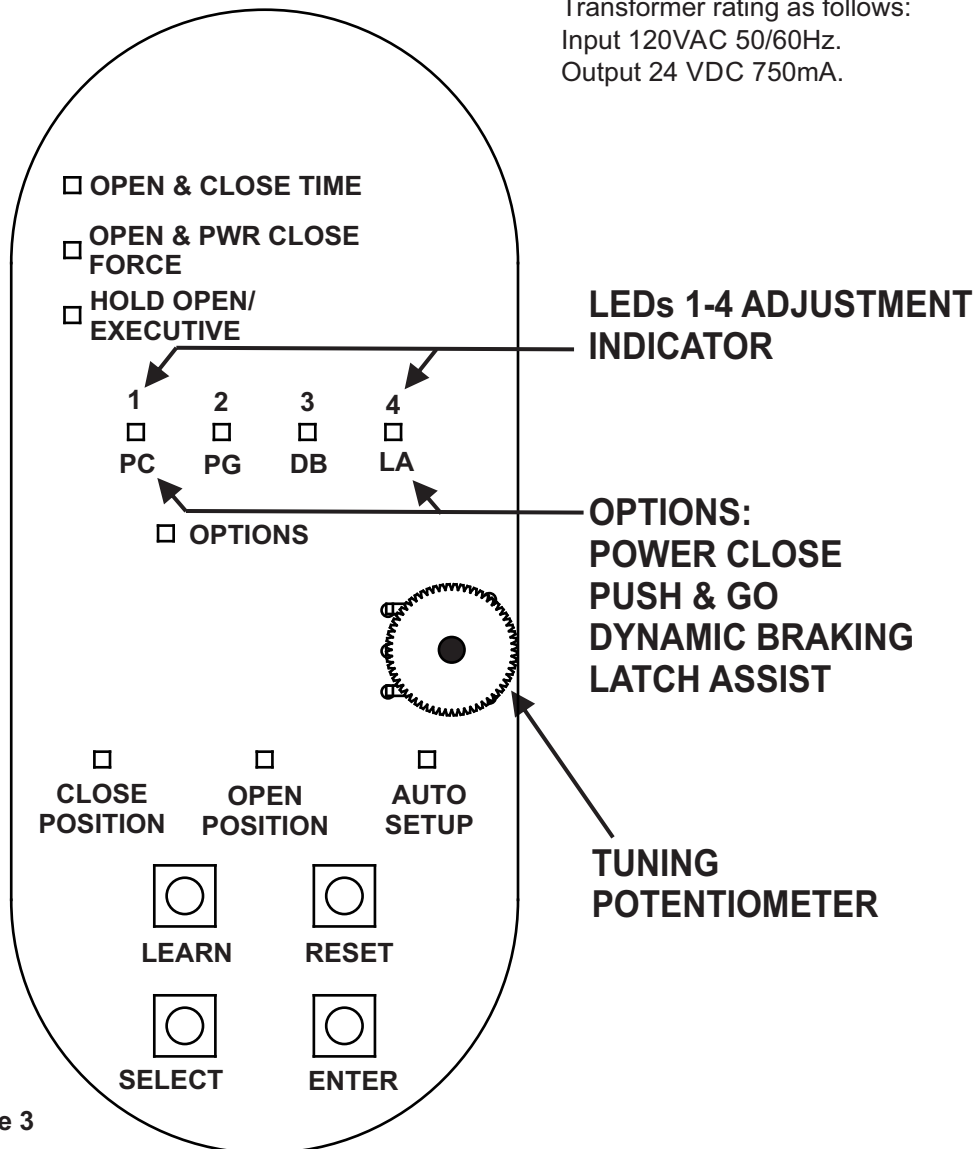

Figure 3
- Door Controller: Contains the hardware and software necessary to control the motion of the door. Figure 3 illustrates the door controller circuit board controls and indicators.